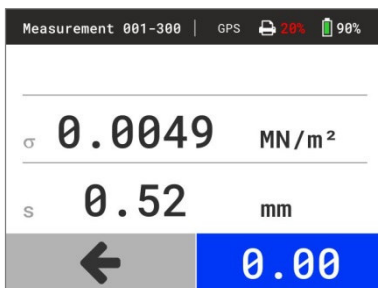

Figure 12
- ⇒ The menu »Measuring« (Figure 12) is displayed on the screen: